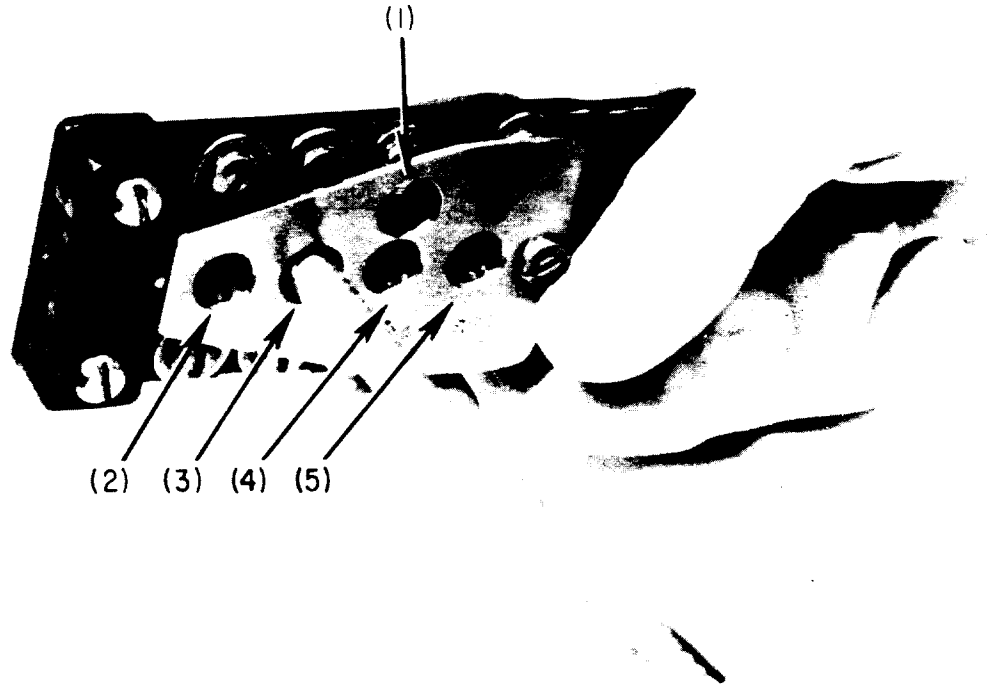

Fig. 2 — Method of Holding Coaxial Cable Stripper
3.03 The method of holding the coaxial cable stripper is shown in Fig. 2. Also shown are the holes designated (1), (2), (3), (4) and (5) for cutting, skinning, stripping, and butting the cable.
3.04 Insert the cable into the hole designated (1) in Fig. 2 and cut the cable to the required length.
3.07 Insert the cable into the hole designated (2) in Fig. 2. With the cable extending the required length beyond the cutting edge of the stripper (dimension "A"), hold the stripper tightly closed while rotating it in a half circle to insure a complete cut around the cable. Pull off the outer sheath, the wire braid, and the dielectric.
3.08 Insert the cable into the hole designated (3) in Fig. 2. With the cable extending the required length beyond the cutting edge of the stripper (dimension "B"), hold the stripper tightly closed while rotating it in a half circle to insure a complete cut around the cable. Hold the stripper at right angles to the cable, and with a
3.09 Insert the cable into the hole designated (4) in Fig. 2. With the cable extending the required length beyond the cutting edge of the stripper (dimension "C"), hold the stripper tightly closed while rotating it in a half circle to insure a complete cut around the cable. Remove the cable from the hole and insert it into the hole designated (5) in Fig. 2. Holding the stripper tightly closed, pull in a straight line toward the bare conductor end, making a longitudinal cut. Remove the cable from the hole and peel off the outer sheath, using the thumb nail or the pliers.